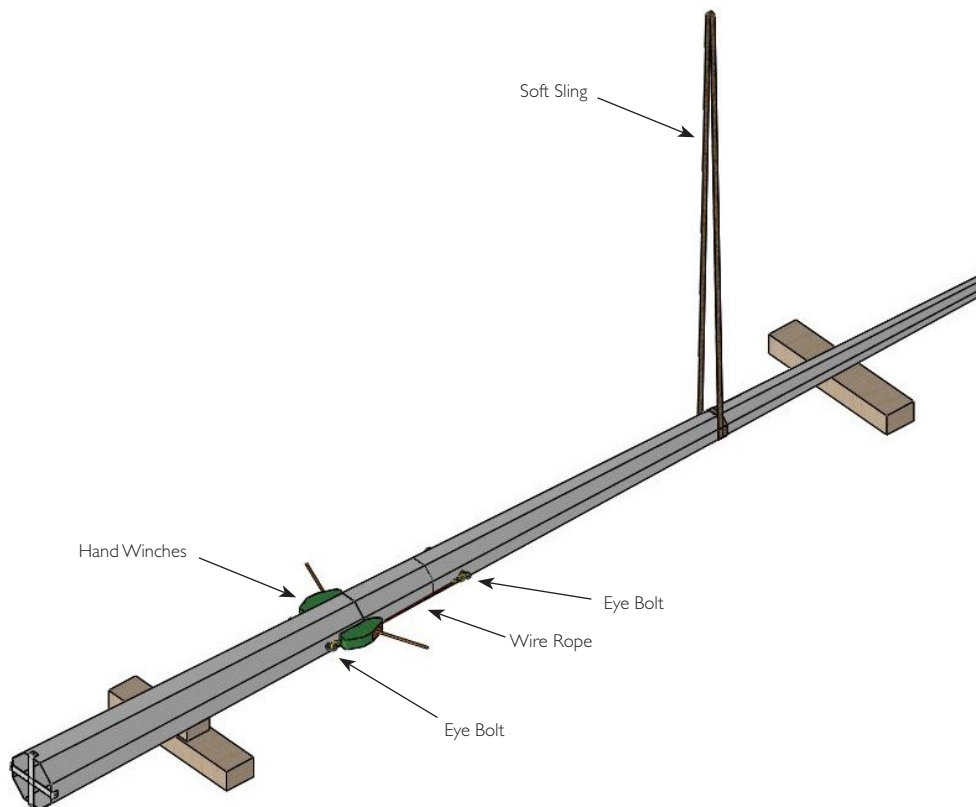

Figure 5.
- 3.16 A choked sling arrangement can be used to lift from. With this arrangement it is very important that the wire rope, chain or winches secured to the eye bolts across the slip joint, is taut. A rope may be attached to the choked lifting sling to enable it to be easily slid down the pole at completion of the installation. See Figure 5.